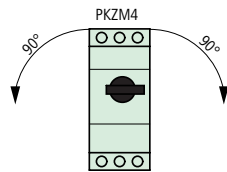

Figure 7: Permitted mounting position of the PKZM4 motor-protective circuit-breaker
► Always mount the motor-protective circuit-breaker as shown in Fig. 7.